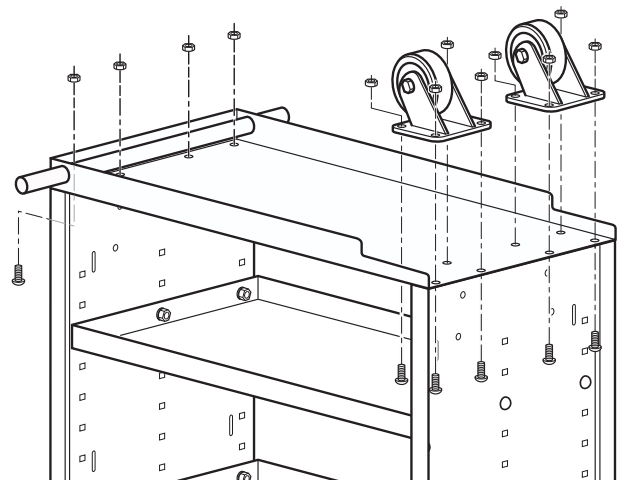

Figure 4-16
- Align the mounting holes on each Side Panel flange with the mounting holes on each end of the Base. Place the Casters (item #13) in the corners of the Base as shown in Figure 4-16. Align the Caster mounting holes with the mounting holes in the Side Panel flange and Base. Attach Casters, Base, and Side Panel using eight M8 x 25 Round-Head Square-Neck Carriage Bolts (item #11) with M8 Flanged Nylock Hex Nuts (item #2), as shown in Figure 4-16. Attach the axle-end of the Base to the Side Panel using four M8 x 20 Round-Head Square-Neck Carriage Bolts (item #3) with M8 Flanged Nylock Hex Nuts (item #2). **Fully tighten all nuts from steps 1 and 2, then fully tighten all nuts from step 6.**